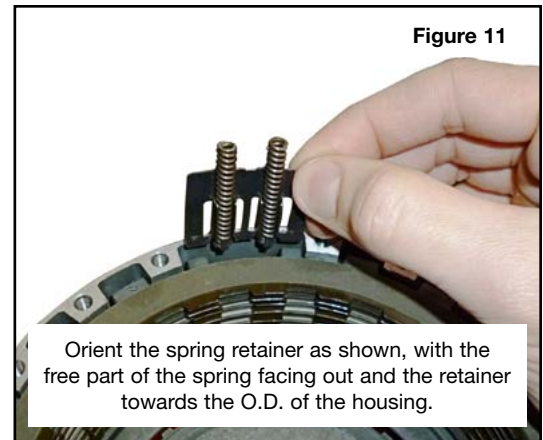

Figure 11
6. Slide the spring retainers into the housing, with springs and retainers oriented as shown (**Figure 11**).